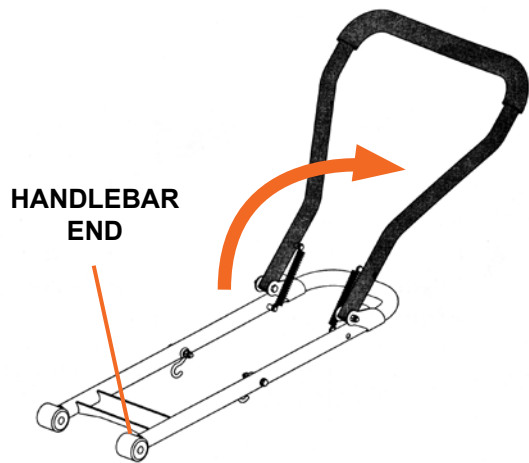

Figure 1
1. Unfold the handlebars (see Figure 1).